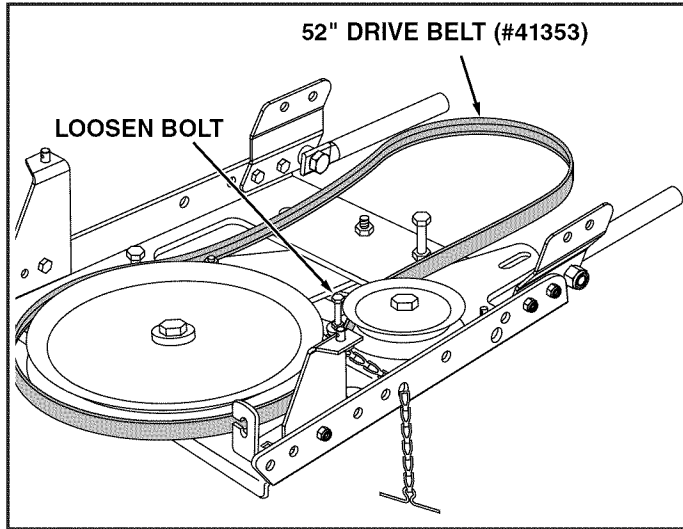

FIGURE 23
STEP 9: (SEE FIGURE 23)
STEP 2: (SEE FIGURE 23)